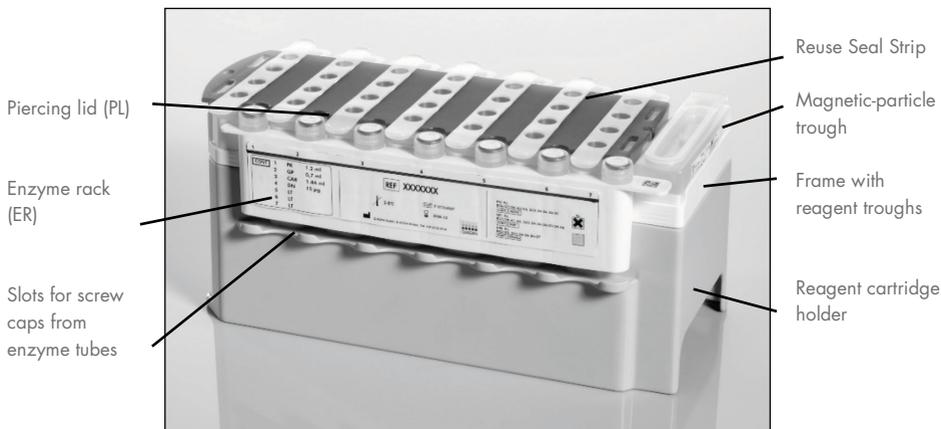

Figure 2. QIAasymphony reagent cartridge (RC). The reagent cartridge (RC) contains all reagents required for the protocol run.
Reagents for purification of DNA are contained in an innovative reagent cartridge (RC) (Figure 2, page 19). Each trough of the reagent cartridge (RC) contains a particular reagent, such as magnetic particles, lysis buffer, wash buffer, or elution buffer. Partially used reagent cartridges (RC) can be reclosed with Reuse Seal Strips (RSS) for later reuse, which avoids generation of waste due to leftover reagents at the end of the purification procedure.
Before starting the procedure, ensure that the magnetic particles are fully resuspended. Remove the magnetic-particle trough from the reagent cartridge frame, vortex it vigorously for at least 3 minutes, and replace it in the reagent cartridge frame before the first use. Place the reagent cartridge (RC) into the reagent cartridge holder. Place the enzyme rack (ER) into the reagent cartridge holder. Before using a reagent cartridge (RC) for the first time, place the piercing lid (PL) on top of the reagent cartridge (RC) (Figure 2, above).
After the magnetic-particle trough cover is removed and the enzyme rack tubes are opened (screw caps can be stored in dedicated slots, see Figure 2, above), the reagent cartridge (RC) is subsequently loaded into the “Reagents and Consumables” drawer.